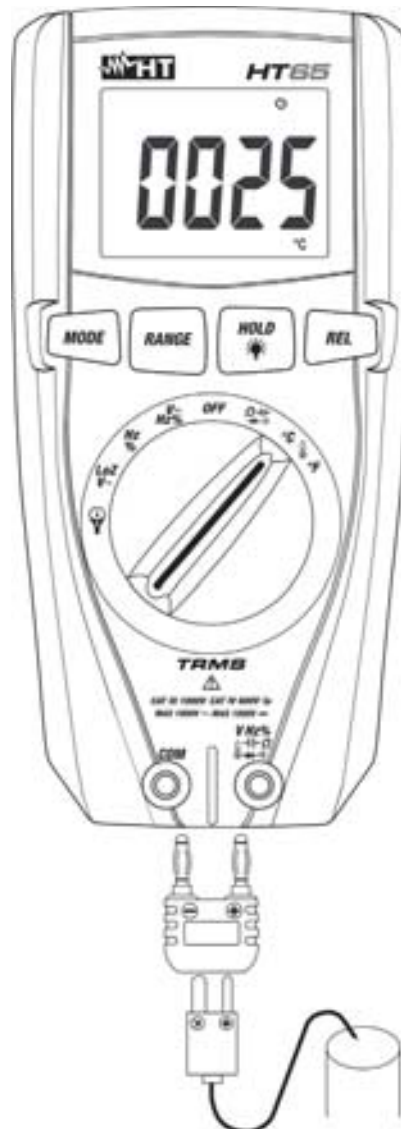

Fig. 9: Use of the instrument for Temperature measurement
2. Insert the provided adapter into input terminals $\text{V}\Omega\text{Hz}$ (polarity +) and **COM** (polarity -) (see Fig. 9)